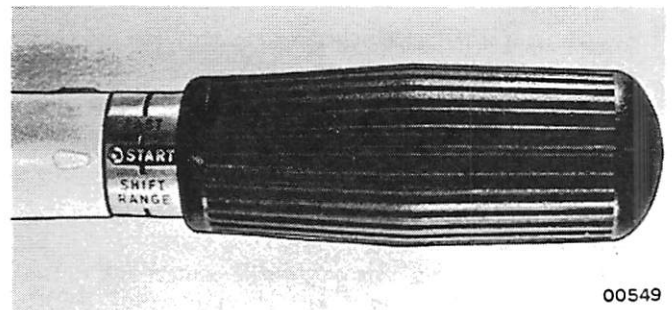

Figure 8. Twist Grip Throttle (Tiller Handle)
1. With engine running in neutral gear, turn twist grip to obtain 2400 to 2700 RPM. At this point, "Start" position on twist grip should align with indicator arrow on tiller handle. (Figure 8)